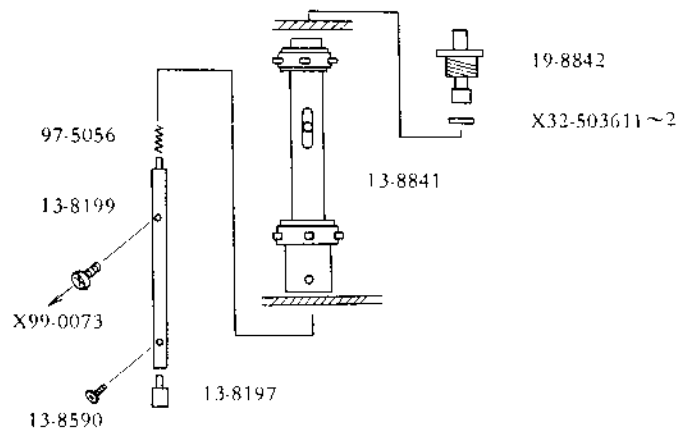

Fig. 2
- 4) Mount the parts in the sequence shown in Fig. 2.